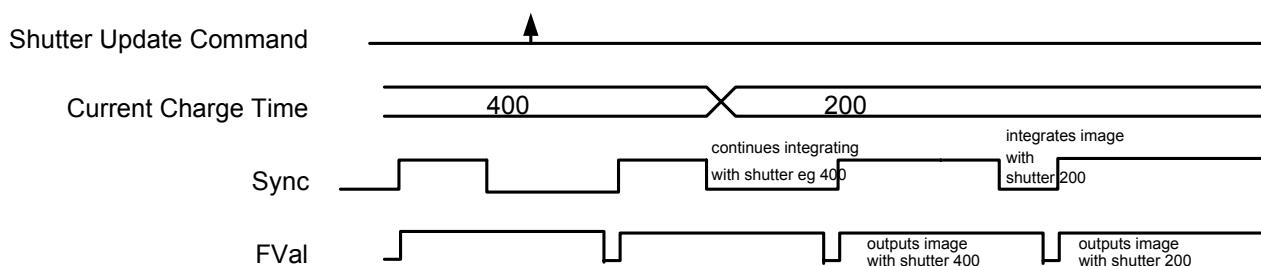

Figure 84: Former standard timing
- The delay from shutter update until the change takes place: up to 3 frames. Figure 84: Former standard timing on page 133 demonstrates this behavior. It shows that the camera receives a shutter update command while the sensor is currently integrating (Sync is low) with shutter setting 400. The camera continues to integrate and this image is output with the next FVal. The shutter change command becomes effective with the next falling edge of sync and finally the image taken with shutter 200 is output with a considerable delay.